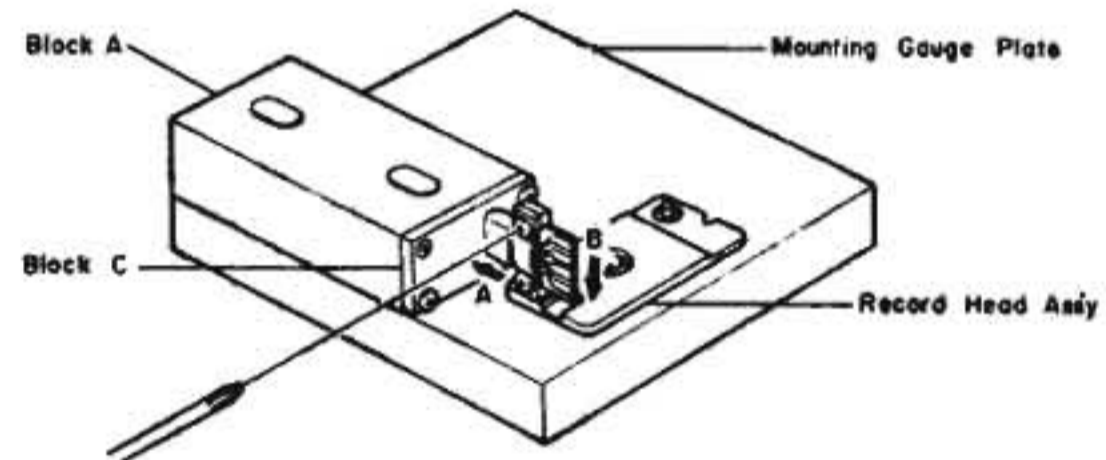

Fig. 2.17
- (5) Remove the Block B from the Mounting Gauge Plate.
- (6) As shown in Fig. 2.17, mount the R-8L record head assembly onto the Mounting Gauge Plate, then check the location of the R-8L record head surface. (If record head touches the Block C, loosen 2 pcs. of screws that assemble record head and record head plate, then place the R-8L record head assembly onto the Plate.)
- (7) Remove the R-8L record head assembly from the Mounting Gauge Plate.
- (8) Readjustment of Record Head Mounting Gauge M-9048 (DA09048A)
- (9) Remove the Block B from the Mounting Gauge Plate.
- (10) Mount the R-8L record head assembly onto the Mounting Gauge Plate.
- (11) As shown in Fig. 2.17, loosen 2 pcs. of screws that assemble record head and record head plate. As the location of the Block A is secured by the item (8)-(c), push the record head to the directions A and B, then tighten 2 pcs. of screws.
- (12) Check to insure freedom from gap between the Block C and record head surface, then tighten the 2 pcs. of screws on the record head assembly with lock tight paint.
- (13) Remove the R-8L record head assembly from the Mounting Gauge Plate.
- (14) Assemble the record head assembly to the head mount base assembly.
- (15) Assemble the head mount base assembly to the mechanism assembly.
- (16) Check the record head stroke. If the above are inaccurate, items (1) through (16) will have to be repeated till satisfactory results are obtained.